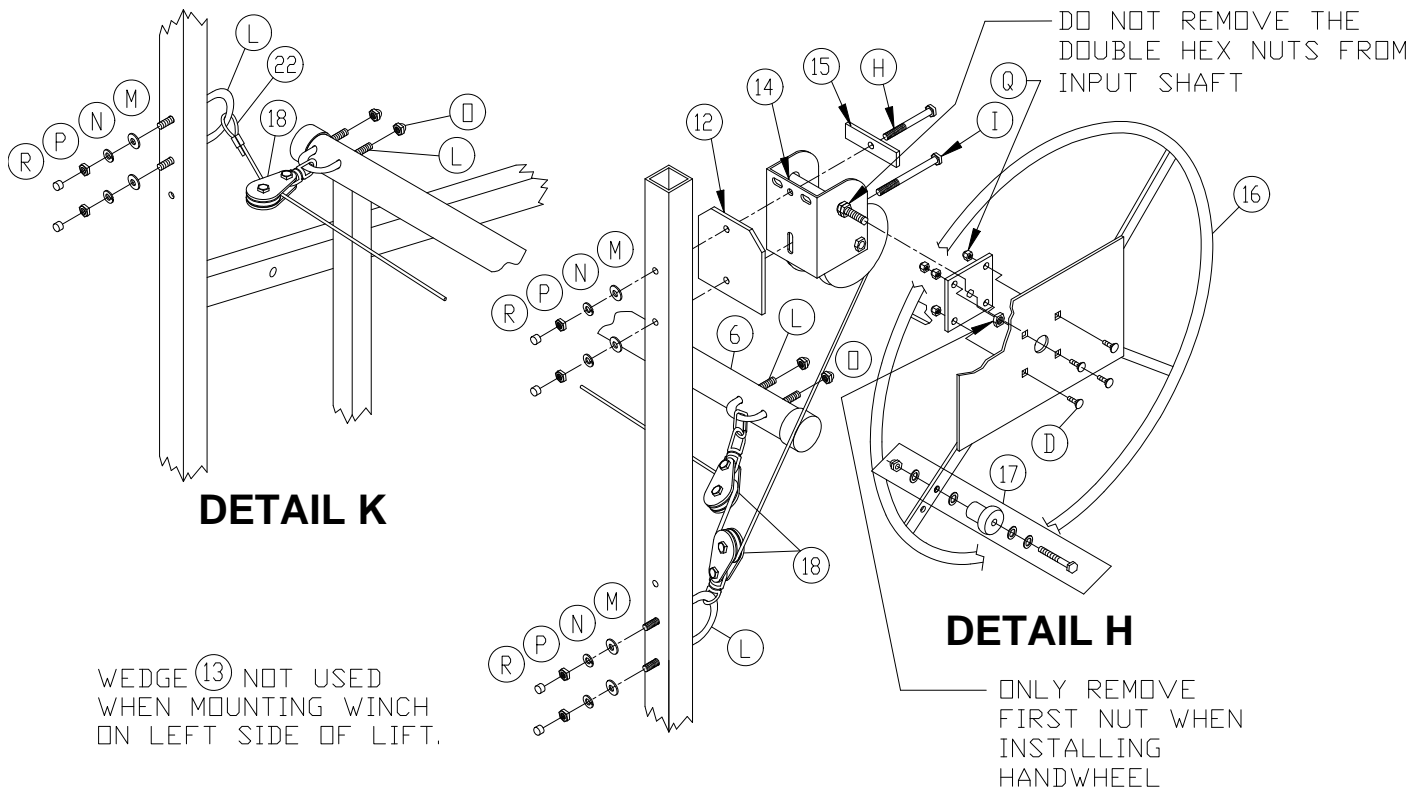
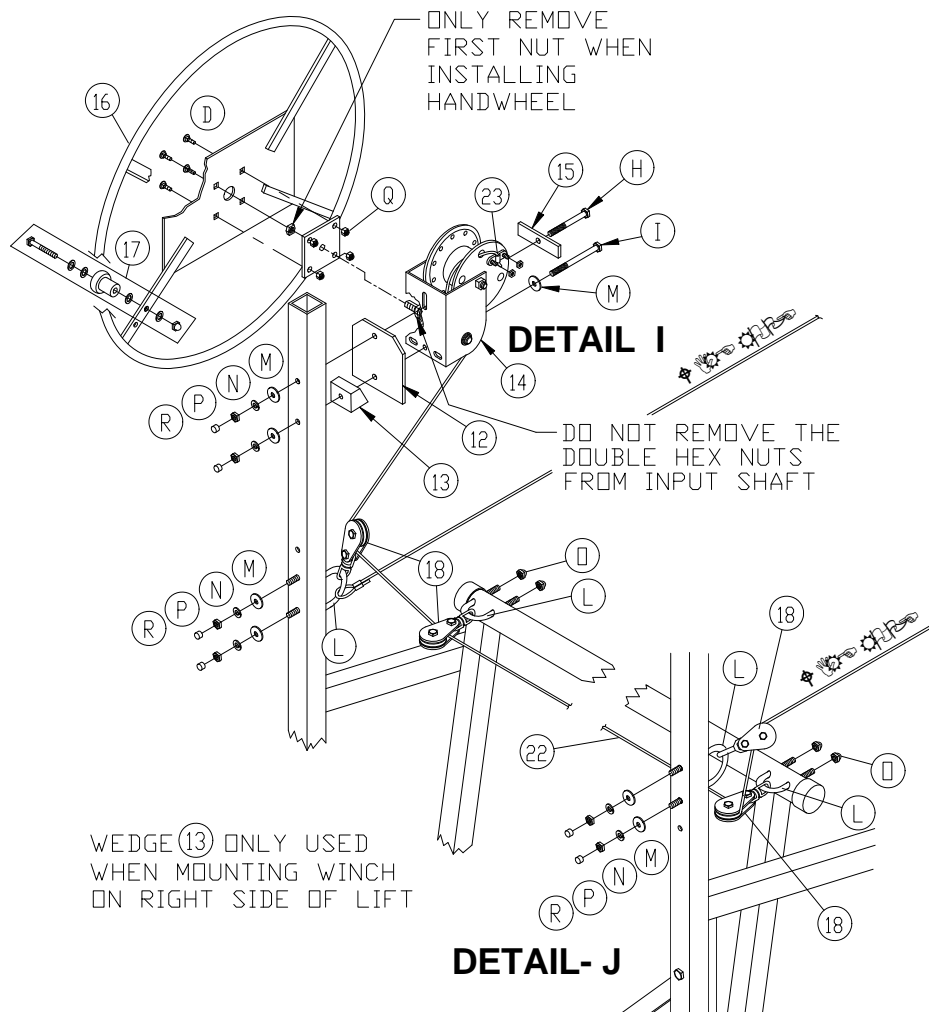
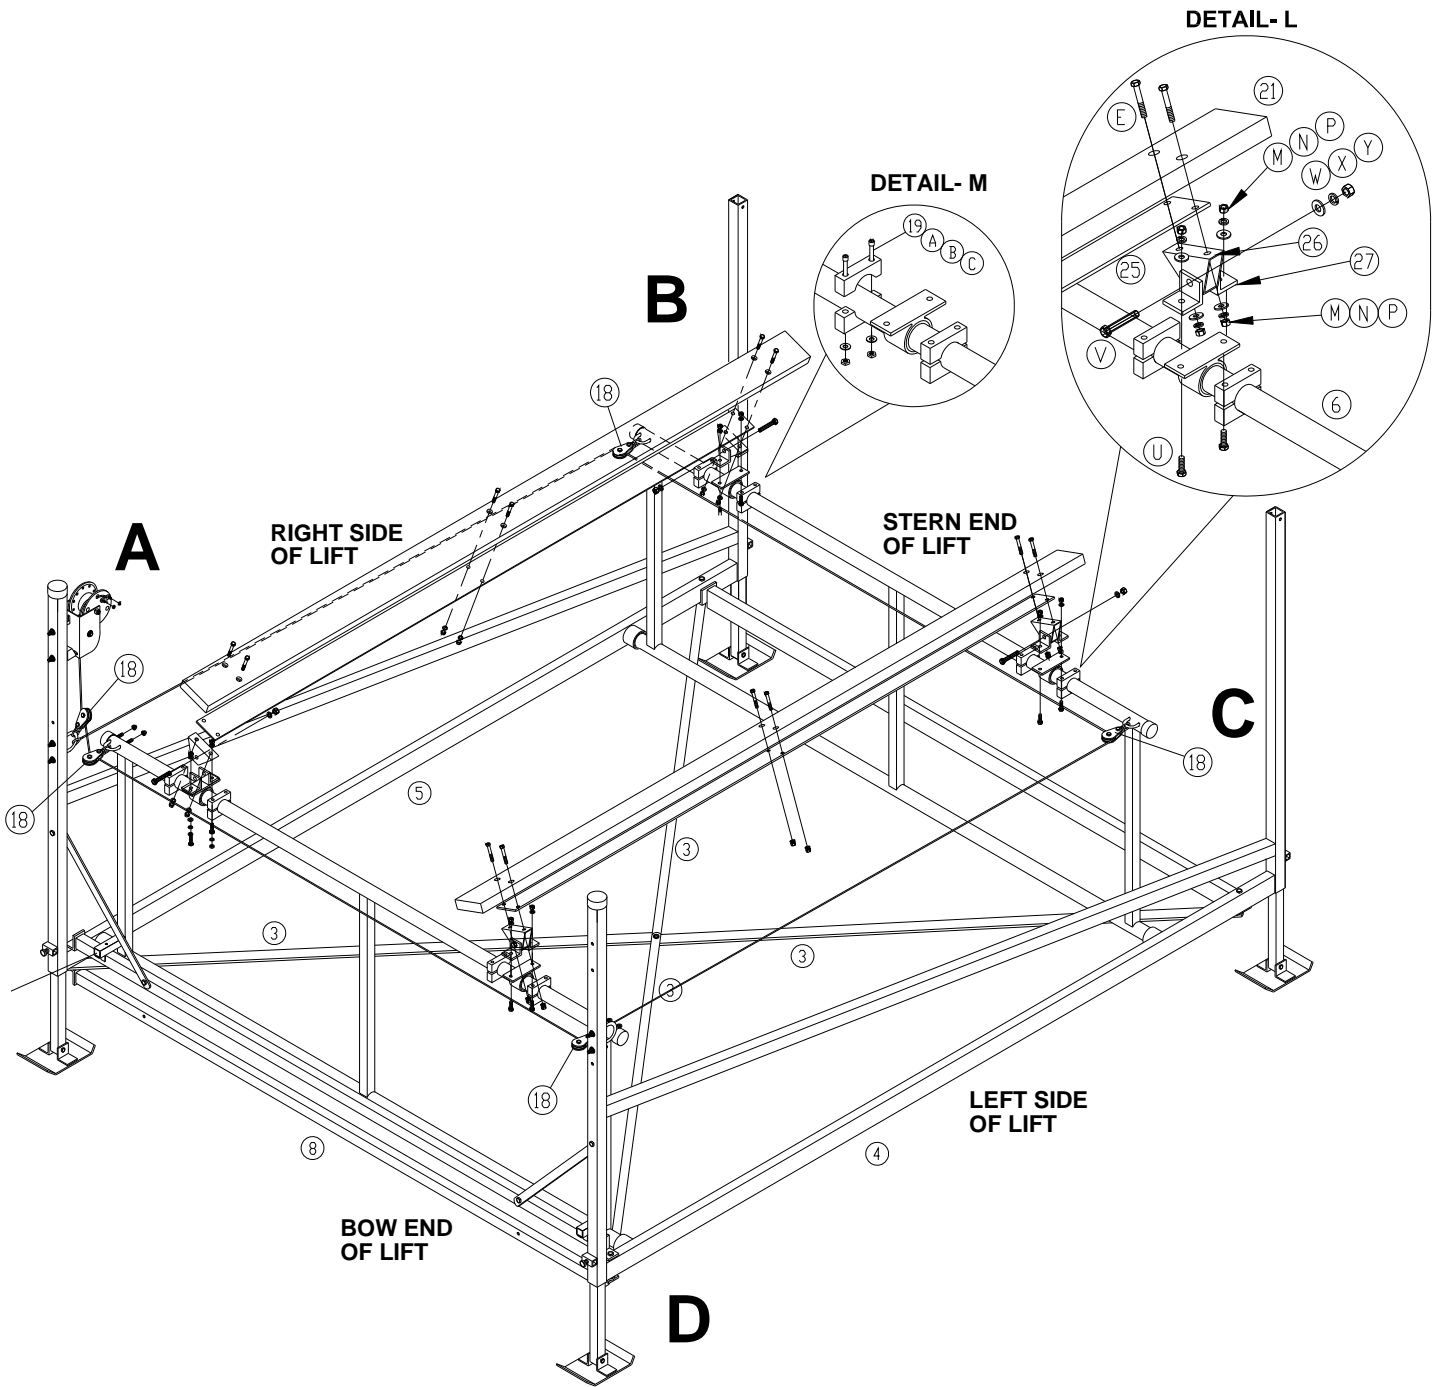

Figure 3-3.
Figure 3-4.
Figure 3-5.
1. Making sure that input shaft is facing towards outside of lift, attach winch to bow end of left side frame assembly as shown in **Figure 3-3**.
1. Making sure that input shaft is facing towards outside of lift, attach winch to bow end of right side frame assembly as shown in **Figure 3-4**.
2. Refer to **Figure 3-3 Detail H and Figure 3-5**. Install polymer block on left-hand side assembly by inserting U-bolt through the swivel of the polymer block and loop end of wire rope attaching it to bow end corner **D** of the side assembly using the lower set of mounting holes.
3. Refer to **Figure 3-3 Detail K**. Install polymer block on right-hand side assembly by inserting U-bolt through the swivel of the polymer block attaching it to bow end corner **A** of the side assembly using the upper set of mounting holes.
4. Refer to **Figure 3-5**. Reeve wire rope through polymer blocks in the following order. Starting from bow corner **D**, proceed to stern corner **C**, then across to stern corner **B**, and ahead to bow corner **A**. At corner **A** reeve side assembly block first, then reeve lift arm block. Next return to bow corner **D**, reeving lift arm block then side frame block finishing at winch as shown in **Detail H** of **Figure 3-3**.
2. Refer to **Figure 3-4 Detail I and Figure 3-5**. Install polymer block on right-hand side assembly by inserting U-bolt through the swivel of the polymer block and loop end of wire rope attaching it to bow end corner **A** of the side assembly using the lower set of mounting holes.
3. Refer to **Figure 3-4 Detail J**. Install polymer block on left-hand side assembly by inserting U-bolt through the swivel of the polymer block attaching it to bow end corner **D** of the side assembly using the upper set of mounting holes.
4. Refer to **Figure 3-5**. Reeve wire rope through polymer blocks in the following order. Starting from bow corner **A**, proceed to stern corner **B**, then across to stern corner **C**, and ahead to bow corner **D**. At corner **D** reeve side assembly block first, then reeve lift arm block. Next return to bow corner **A**, reeving lift arm block then side frame block finishing at winch as shown in **Figure 3-4. Detail I**.
1. Refer to **Figure 3-4**. Install the wire rope clamp, outside the drum flange as shown in **Detail I**. Do not tighten at this time.
2. Refer to **Figure 3-3**. Feed the wire rope over the back side of the drum, through hole in drum flange and under the wire rope clamp with one inch extending past the clamp as shown in **Detail I of Figure 3-4**. Tighten nuts on clamp to hold wire rope in place.
2. Refer to **Figure 3-4**. Feed the wire rope into the winch between winch frame and front side of drum. Continue reeving wire rope over drum, through hole in drum flange and under the wire rope clamp with one inch extending past the clamp as shown in **Detail I**. Tighten nuts on clamp to hold wire rope in place.
2. Refer to **Figure 3-5**. Set distance of each pivot bunk mounting bracket a minimum of 10” from center of bow and stern lifting arm. Then mount a pair of half round clamps, approximately 2” away from each side of pivot bunk mounting bracket as shown in **Detail M**. When fastening the clamps together, use clamp with pressed in hex nuts as bottom clamp. Fine adjust bunks to fit the hull of your boat as needed.